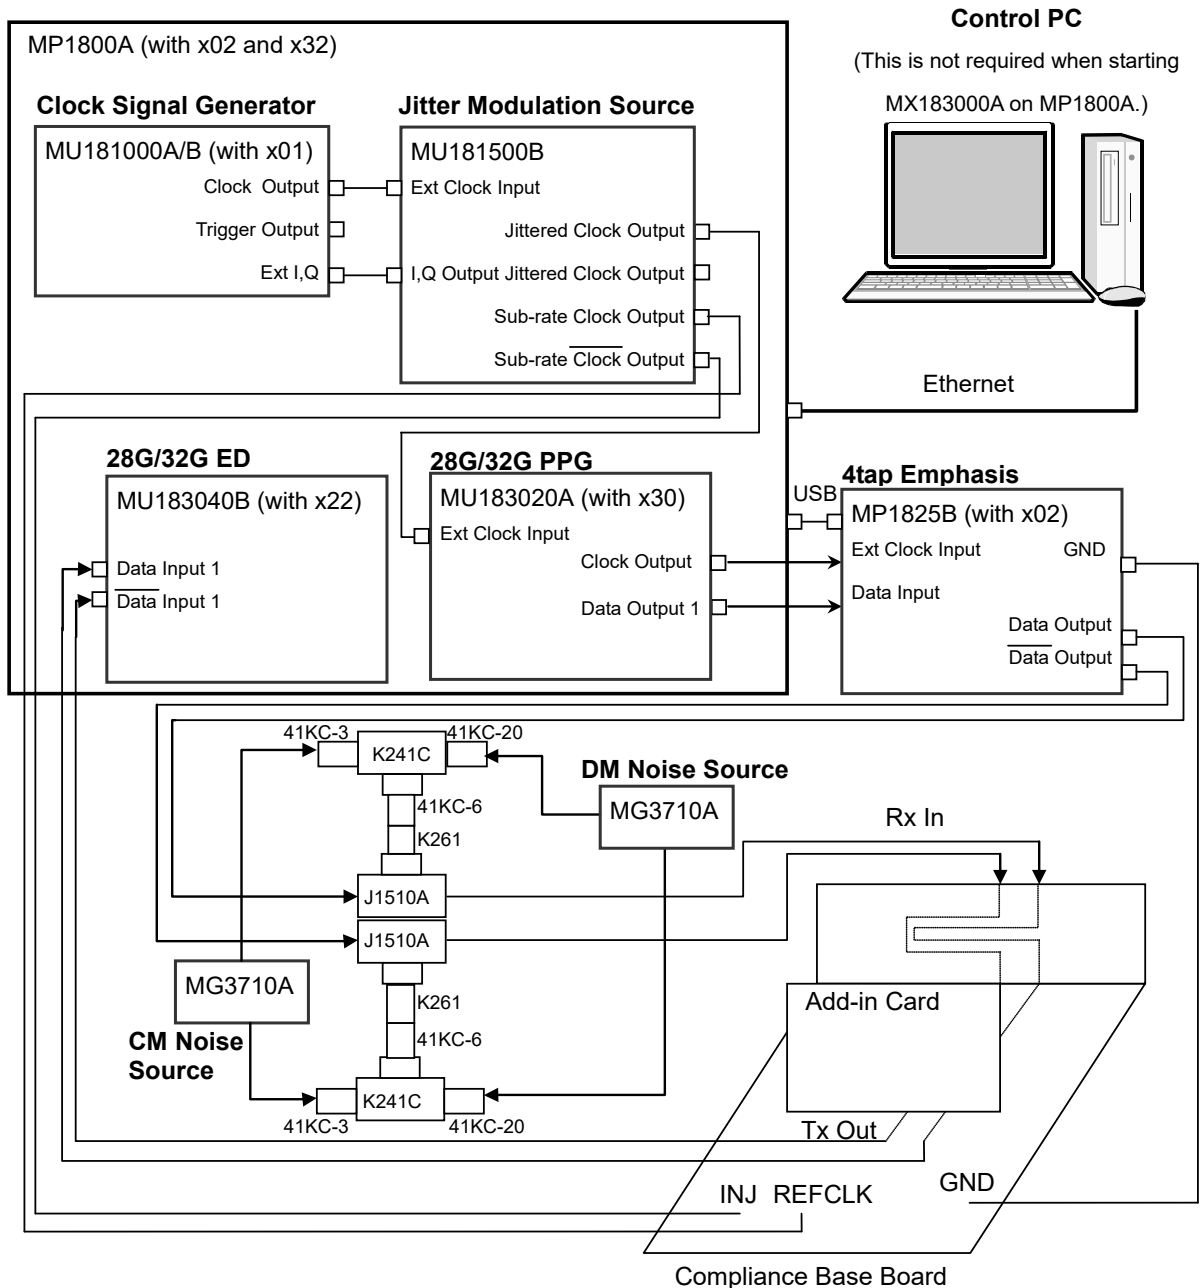

Figure 3.3.1-1 PCIe Link Sequence Connection Using MP1800A
12. Connect MG3710A to 41KC-3, 41KC-6, 41KC-20, K241C and J1510A as shown in Figure 3.3.1-1. The MG3710A output is the RF Output connector.